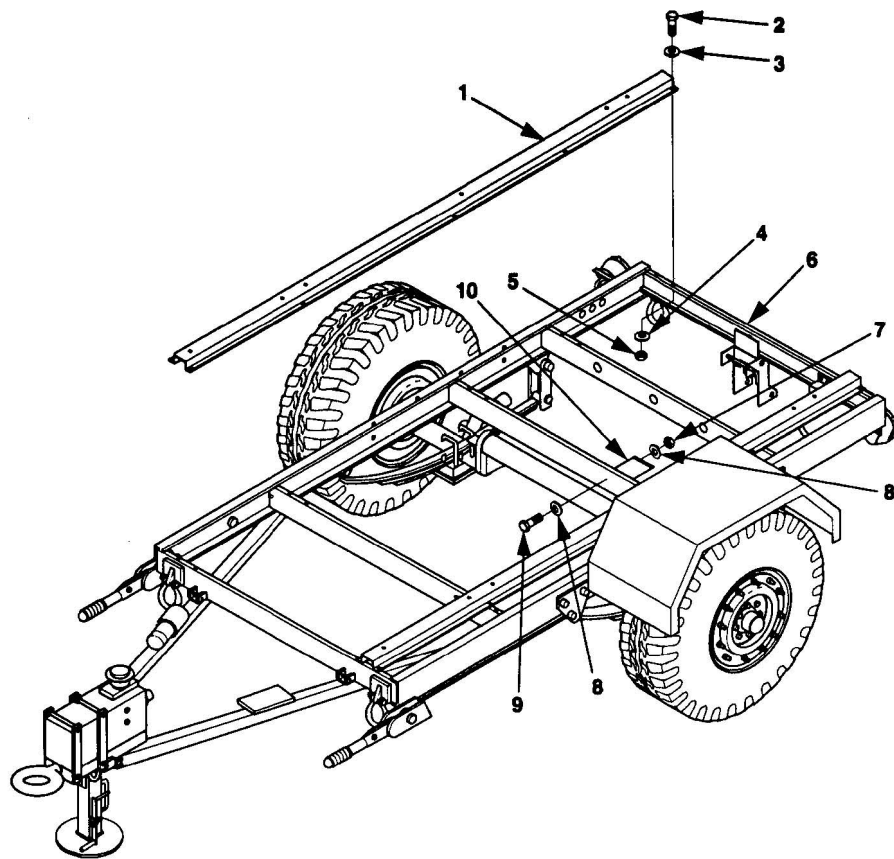

Figure 5-16. Generator Mounting Rails on 1 Ton Trailer.
1. Remove ten self-locking nuts (5, figure 5-16), twenty flat washers (3 and 4), and ten cap screws (2) from each generator mounting rail (1). Discard self-locking nuts (5).
2. Lift generator mounting rails (1) off trailer frame (6). Save generator mounting rails (1)
3. Remove two locknuts (7), four flat washers (8), two bolts (9), and bracket (10).
1. Install bracket (10, figure 5-16), using two bolts (9), four flat washers (8), and two locknuts (7).
2. Place generator mounting rails (1) on trailer frame (6). Align mounting holes in generator mounting rails (1) with mounting holes in trailer frame (6).
3. Place a flat washer (3) on each cap screws (2). Insert cap screws (2) through mounting holes in generator mounting rails (1) and trailer frame (6).
4. Install a flat washer (4) and a new self-locking nut (5) on each of ten cap screws (2).